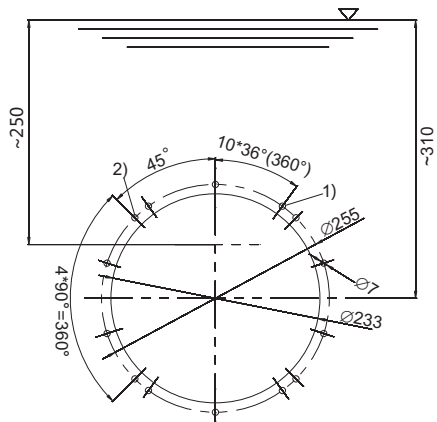

Figure 3
- a) Using the template drill 14 holes into the fibreglass pool shell. ( Figure 3)
- c) Mount the counter current jet faceplate onto the fiber pool using 10 piece of M6 screws. (Hole 1 in Figure 3)
- Opened the corresponding holes from inside of the cement bag and the holes should be completed with the fiber pool (figure 3).